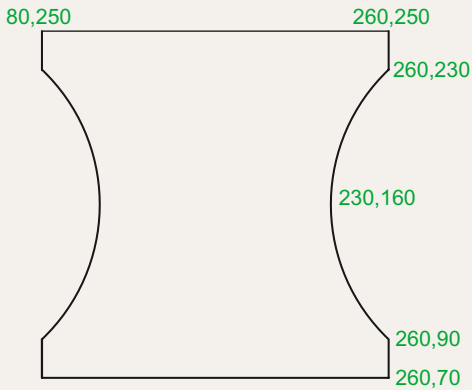

Fig. 3.44 Exercise 1
- Using the **Line** and **Arc** tools, construct the outline given in Fig. 3.44.